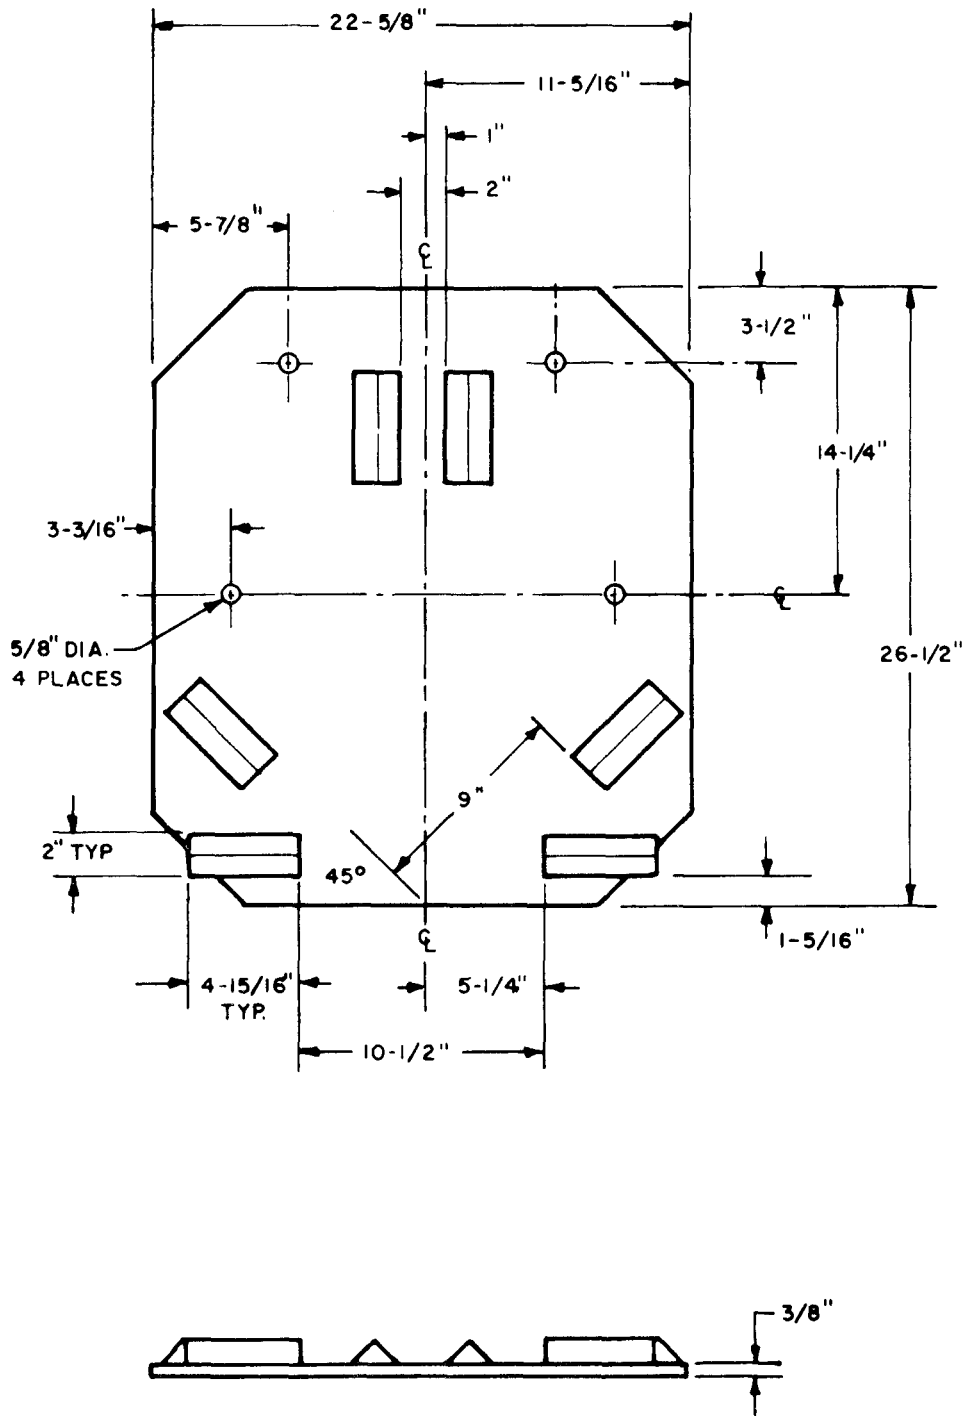

Figure 3-1. Shipping Pallet.
3-3 PREPARATION FOR SHIPMENT. Place 5 eight-unit bags of dessicant (item 1, table 1-16) in the accessory case. Surround the tester with 2 inches of rubberized hog hair when it is packed for shipment. Use the latest revision of specification MIL-P-1 16, method IIb, and JAN-P-100. A pallet (fig. 3-1) may be prepared to secure the tester in the shipping carton. Four holes in the pallet are for tie-down straps.
4-3. Preparation for Reshipment. Place 5 eight-unit bags of dessicant (item 1, table 1-16) in the accessory case. Surround the tester with 2 inches of rubberized hog hair when packing for reshipment. Use the latest revision of specification MIL-P-116, method IIb, and JAN-P-100. A pallet (fig. 3-1) may be prepared to secure the tester in the shipping carton. Four holes in the pallet are for tie-down straps.